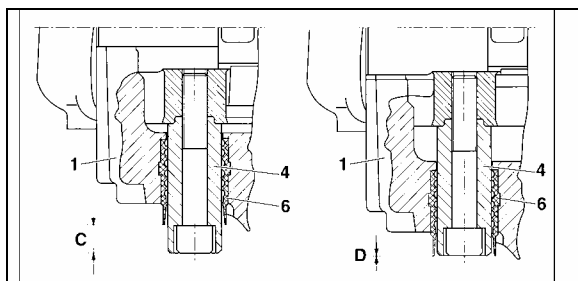

FIGURE 38: BRAKE PAD CHECK 12117
Brake pads have to be checked on a regular basis depending on the vehicle operation. The remaining thickness of the pads should never be less than 3/32 inch (2 mm). To check pad condition without removing the wheel, verify the position of guide bushing (6) relatively to guide sleeve (4) (Fig. 38). When guide sleeve is in alignment with guide bushing, brake pad thickness must be checked more precisely with wheel removed. When replacing the brake pads, all four pads on an axle have to be changed at the same time. There is no inner or outer pad, since all pads are the same. Worn pads should be replaced in the same position.